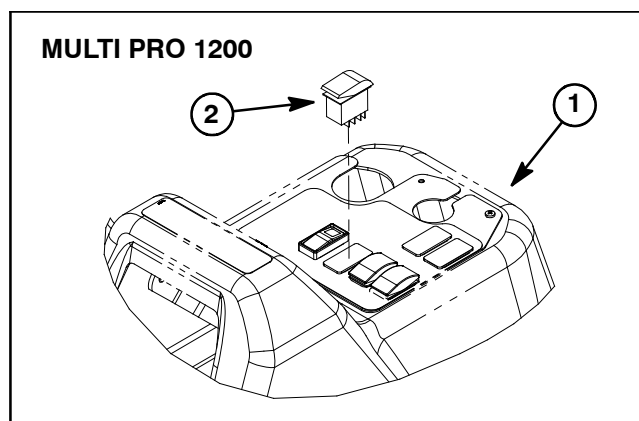

Figure 16
The sonic boom switch is used as an input for the Toro electronic controller (TEC) to activate the Ultra Sonic Boom System. This switch has two (2) positions: automatic and manual. The sonic boom switch is located on the spray control console (Figs. 16 and 17).